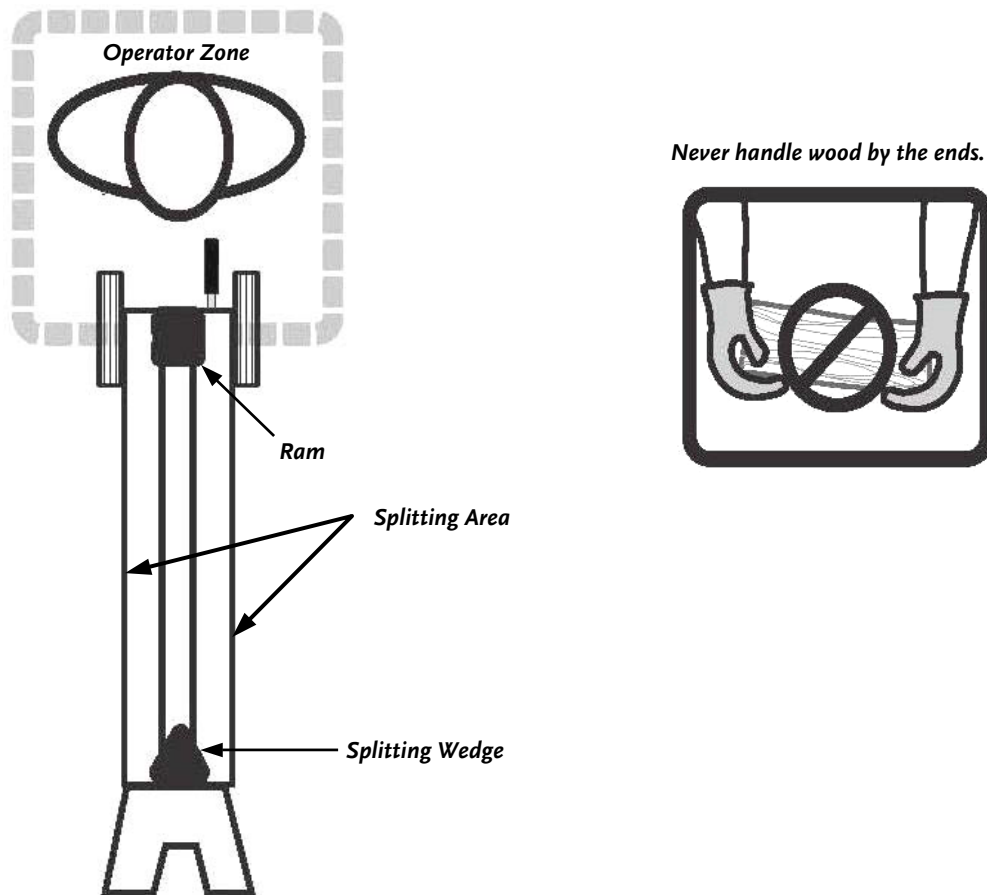

Figure 10
- **ALWAYS BE SURE TO STAND INSIDE THE OPERATOR ZONE WHEN OPERATING THE WOOD SPLITTER (FIGURE 10). THIS IS THE AREA DIRECTLY BEHIND YOUR 4-TON ELECTRIC/HYDRAULIC DR WOOD SPLITTER. NEVER OPERATE THE WOOD SPLITTER FROM ANYWHERE ELSE.**
- **HANDLE LOGS ONLY FROM THE SIDES, NEVER BY THE ENDS (FIGURE 10).**
- **FOR BEST SPLITTING RESULTS, PLACE LOG FLAT ON THE BEAM BETWEEN THE LOG GUIDES WITH BUTT END AGAINST THE LEADING EDGE OF THE WEDGE (FIGURE 10).**
- **DO NOT PUT ANY PART OF YOUR BODY WITHIN THE SPLITTING AREA. USE A STICK IF YOU NEED TO REMOVE DEBRIS FROM THE SPLITTING AREA (FIGURE 10).**